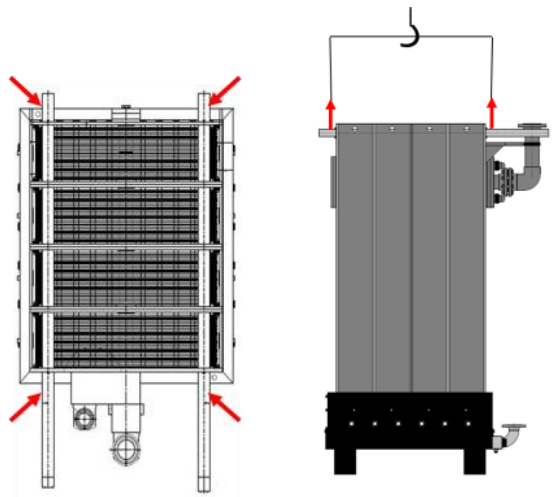

Figure 1: Proper attachment location and lifting technique for module transportation with a crane
- The load-carrying cables should be positioned onto the steel bars directly at the cassette walls as shown in Figure 1.